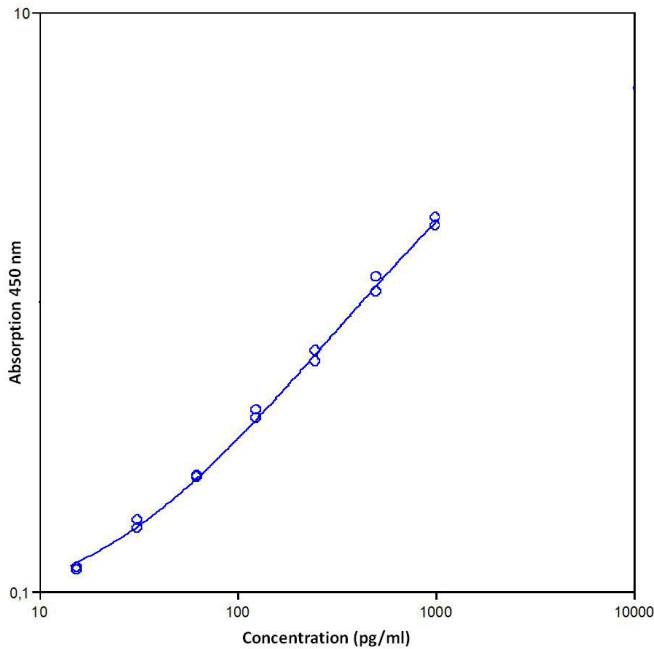

Fig. 7 Representative standard curve for human IL-17F ELISA. Human IL-17F was diluted in serial 2-fold steps in Calibrator Diluent.
- A representative standard curve is shown in Figure 7.